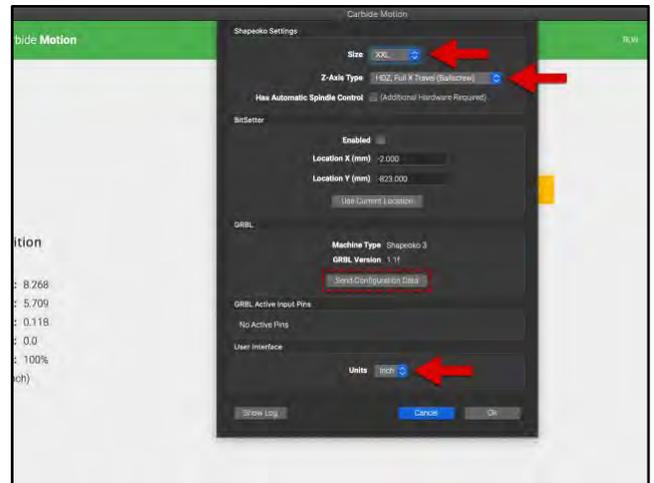

Figure 22
2. Update your machine settings. See *Fig. 22*.